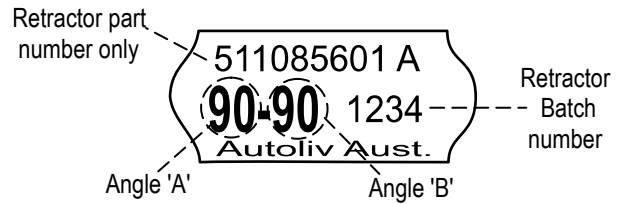

FIGURE 1
- To determine the retractors operating angle refer to the explanation of the label that appears on the side of the retractor as shown in Figure 1.